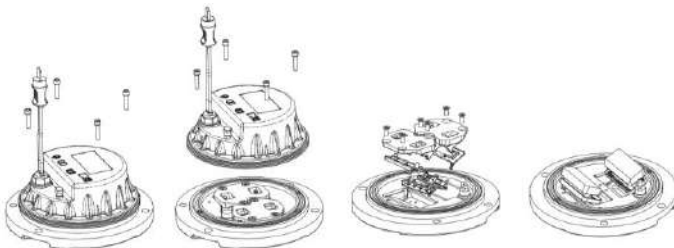

Figure 4-4    Figure 4-5    Figure 4-6    Figure 4-7
- Place the top of the lighting fixtures downwards and dismount 4 M5×25 hexagon socket cap screws (Figure 4-4).